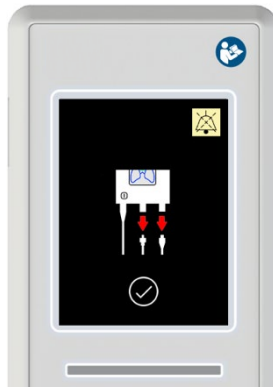

Figure 6: TrachFlush detects that tubes are not disconnected
*If TrachFlush detects that the tubes are not removed prior to calibration, the arrows will be highlighted in red as shown in Figure 6.*